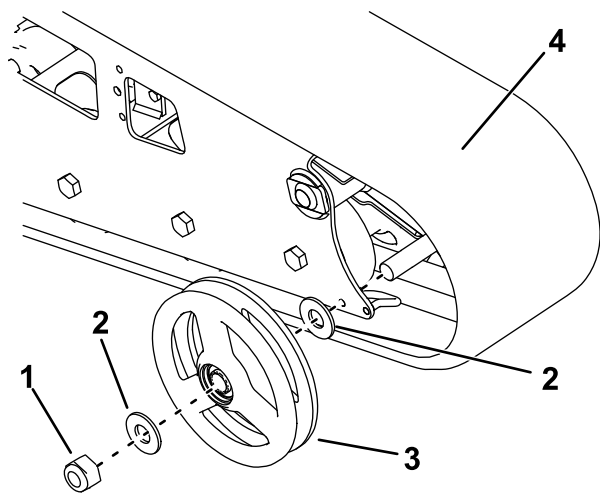

Figure 66
7. Remove the nut securing the outer front wheel and remove the wheel (Figure 66).
8. Remove the track (Figure 66).
9. Pull the 2 large washers out of the outer wheels, 1 on each side of each wheel (Figure 66).
12. Install the new track. (Figure 66).
13. Install the outer front wheel and secure it with the nut removed previously (Figure 66).